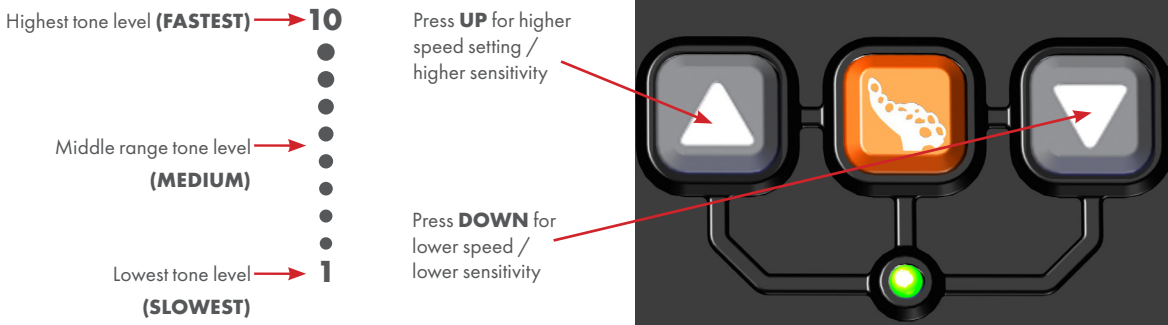

Figure 1
**NOTE:** Default settings are set to 70% of the highest speed level. Tone increases with level (1-10). **FIG. 1**
2. Press the UP button for higher speed setting and DOWN button for lower speed setting. **FIG. 1**
**NOTE:** Default settings are in the middle of the range. Tone increases with level (1-10). **FIG. 1**
2. Press the UP for higher sensitivity setting and DOWN for lower sensitivity setting. **FIG. 1**